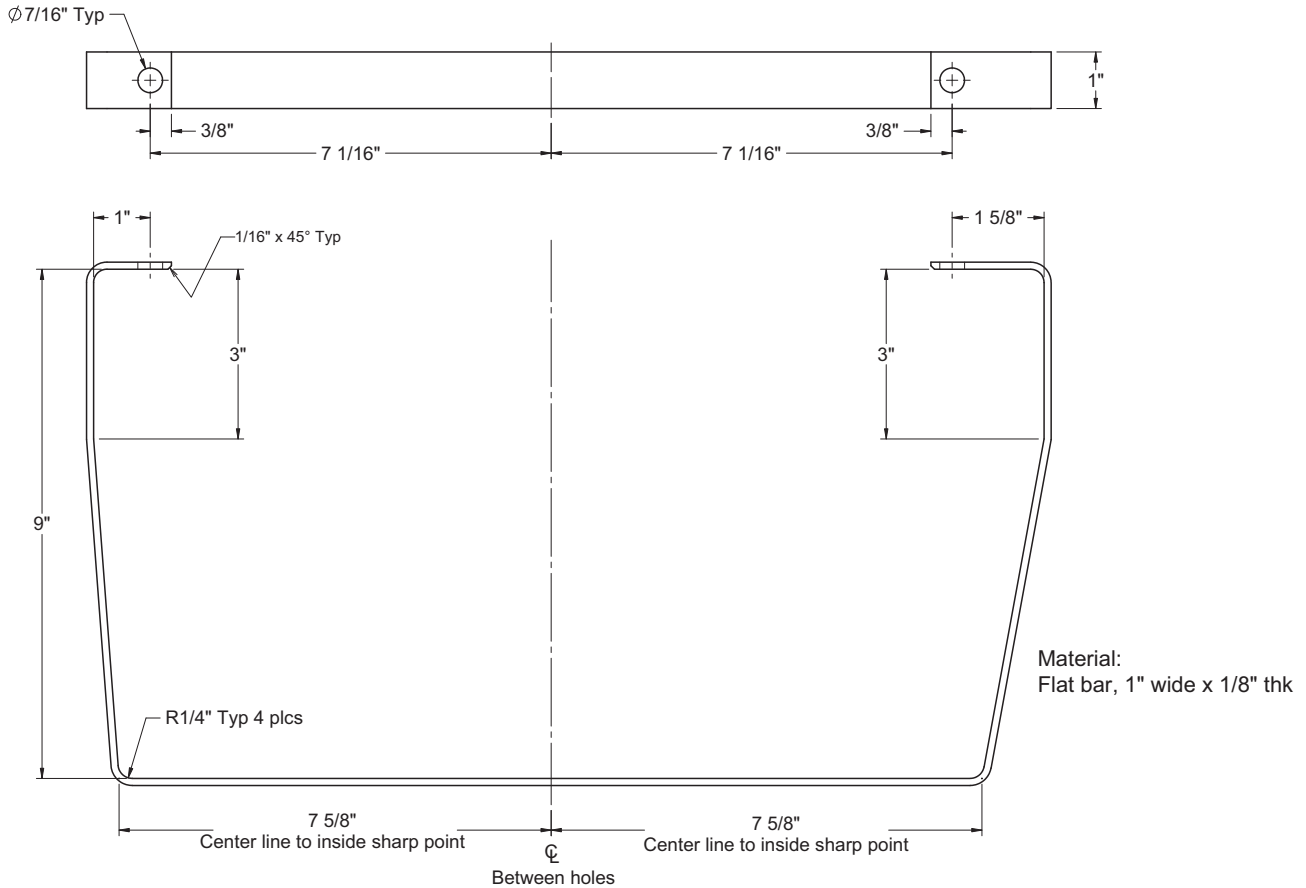

Figure 6: Straps
2. Manufacture two straps from 1" wide x 1/8" thick flat bar (ASTM A36 or equivalent material) as per sketch shown in Figure 6 below.